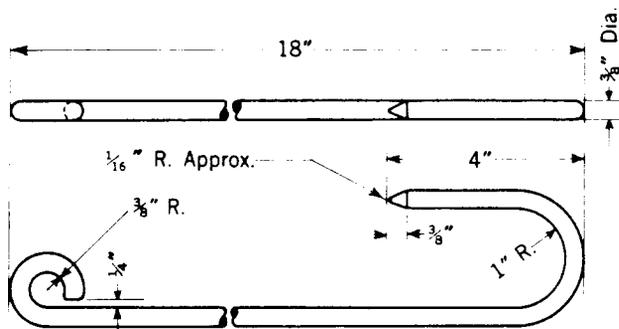

Fig. 1—Special Hooks
—	Special hooks, made locally, from steel with sherardized finish (4 required) (See Fig. 1.)
4.01 Fasten a special hook (Fig. 1) to one end of each of the two sash cords. Attach the hooks to some convenient member of the superstructure immediately over the equipment aisles, one on each side of the line of frames to be cleaned, preferably at an end cross-aisle, in such a way as to obtain the maximum space between the curtains and the line of frames to be cleaned.